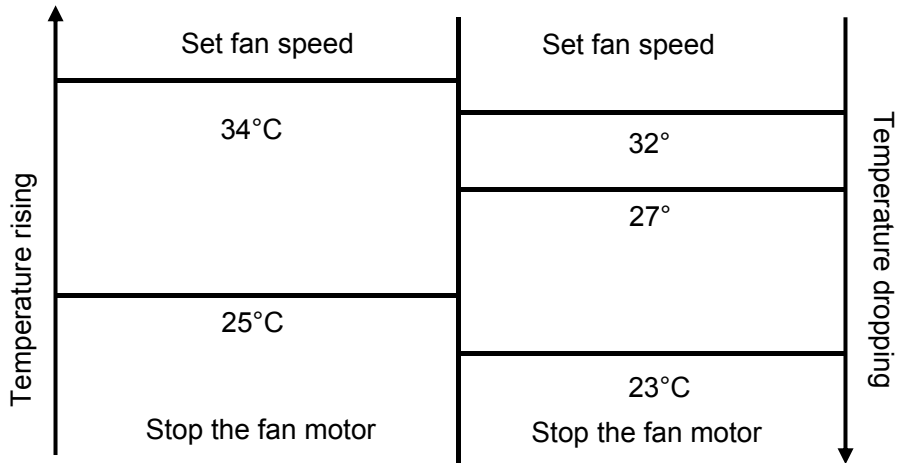

Figure 5 Cold air prevention
a. When running into the heating mode, once the compressor fails to comply with the start-up conditions, the fan speed is regulated according to the coil temperature within 2 min, 2 min later the indoor fan motor stops. If the compressor starts up within 2 min, then operating according to Figure 5. Under heating process, while the compressor stop (including stopping for protection), the fan motor's operation (including stopping the indoor fan motor) is regulated according to the coil temperature within 1min, 1min later the fan will be stopped forcibly.